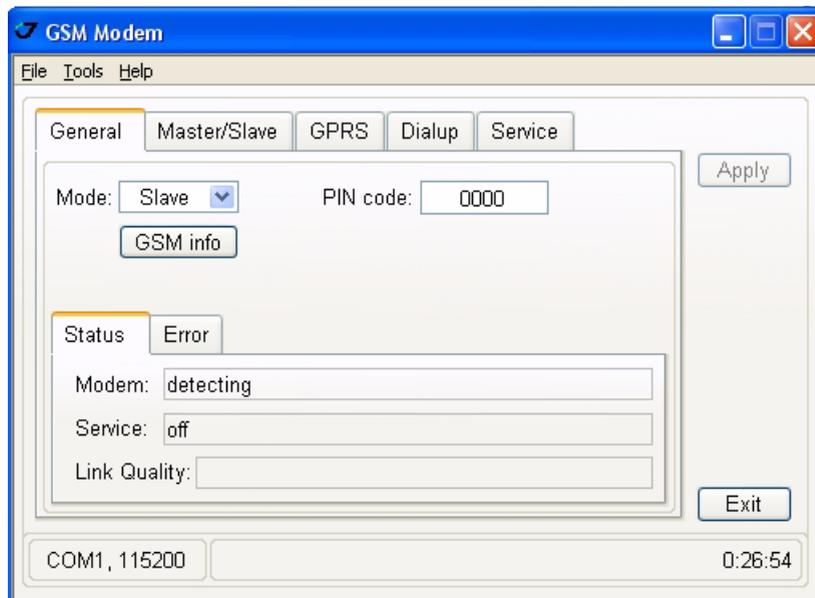

Figure 3-4. General tab
1. On the *General* tab, set the following parameters (Table 3-2) and click *Apply* (Figure 3-4 on page 46). In this tab modem and service status and possible errors are displayed.
2. On the *Master/Slave* tab, set the following parameters (Table 3-3) and click *Apply* (Figure 3-4 on page 46).